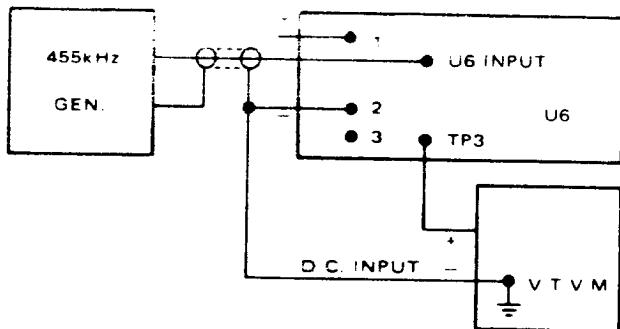

Figure 2
1. Set up the equipment as shown in Figure 2.
5. To check the discriminator, vary the input frequency by 5 kHz (N) or 15 kHz (NW) and check that the change of output is  $\geq 1V$  (N) or  $\geq 2V$  (NW).